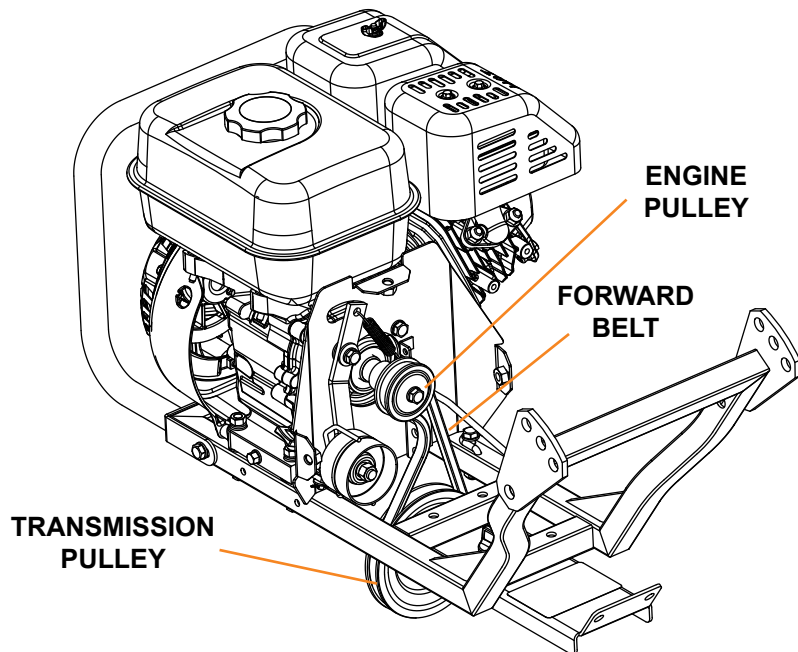

Figure 5
3. Remove belt guard (see Figure 5).